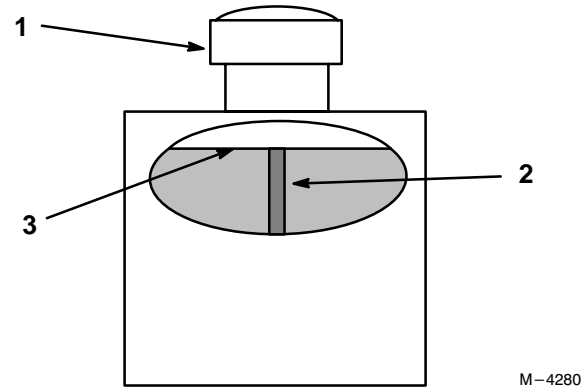

Figure 8
2. Clean area around filler neck of hydraulic tank (Fig. 8).
3. Remove cap from filler neck. Look inside to check if there is fluid in the reservoir. (Fig. 8).
**Note:** Fluid level should be to the top of the baffle when fluid is warm (Fig. 8).